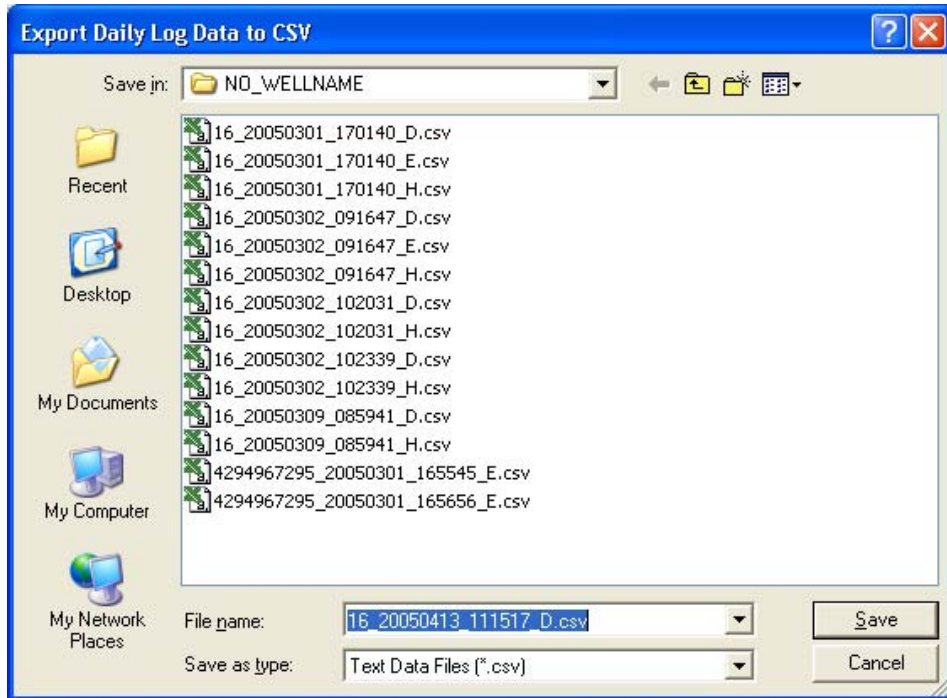

Figure 5.13—Default directory for exported log files
2. When the “Export Daily (or Hourly) Log Data...” window appears, click “Save.” By default, exported logs are saved in C:\NuFlo log data\MC-III<WELL NAME>, however the user can specify a new location, if desired (*Figure 5.13, page 87*). The “wellname” folder will bear the well name that appears on the Wellsite Information screen. If no well name is entered on this screen, the folder will be named “NO_WELLNAME.”